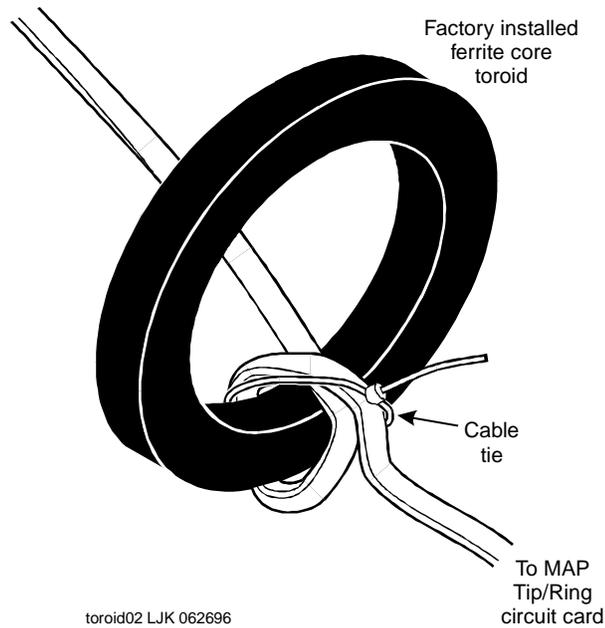

Figure 7-3. Ring Type Ferrite Core Toroid
3. Carefully cut the cable ties which hold the Tip/Ring cables to the ring type ferrite core toroid (Figure 7-3).
3. Dress a Tip/Ring cable through the ring type ferrite core toroid (Figure 7-3).
4. Loop it around and dress it through the ring type ferrite core toroid a second time (Figure 7-3).